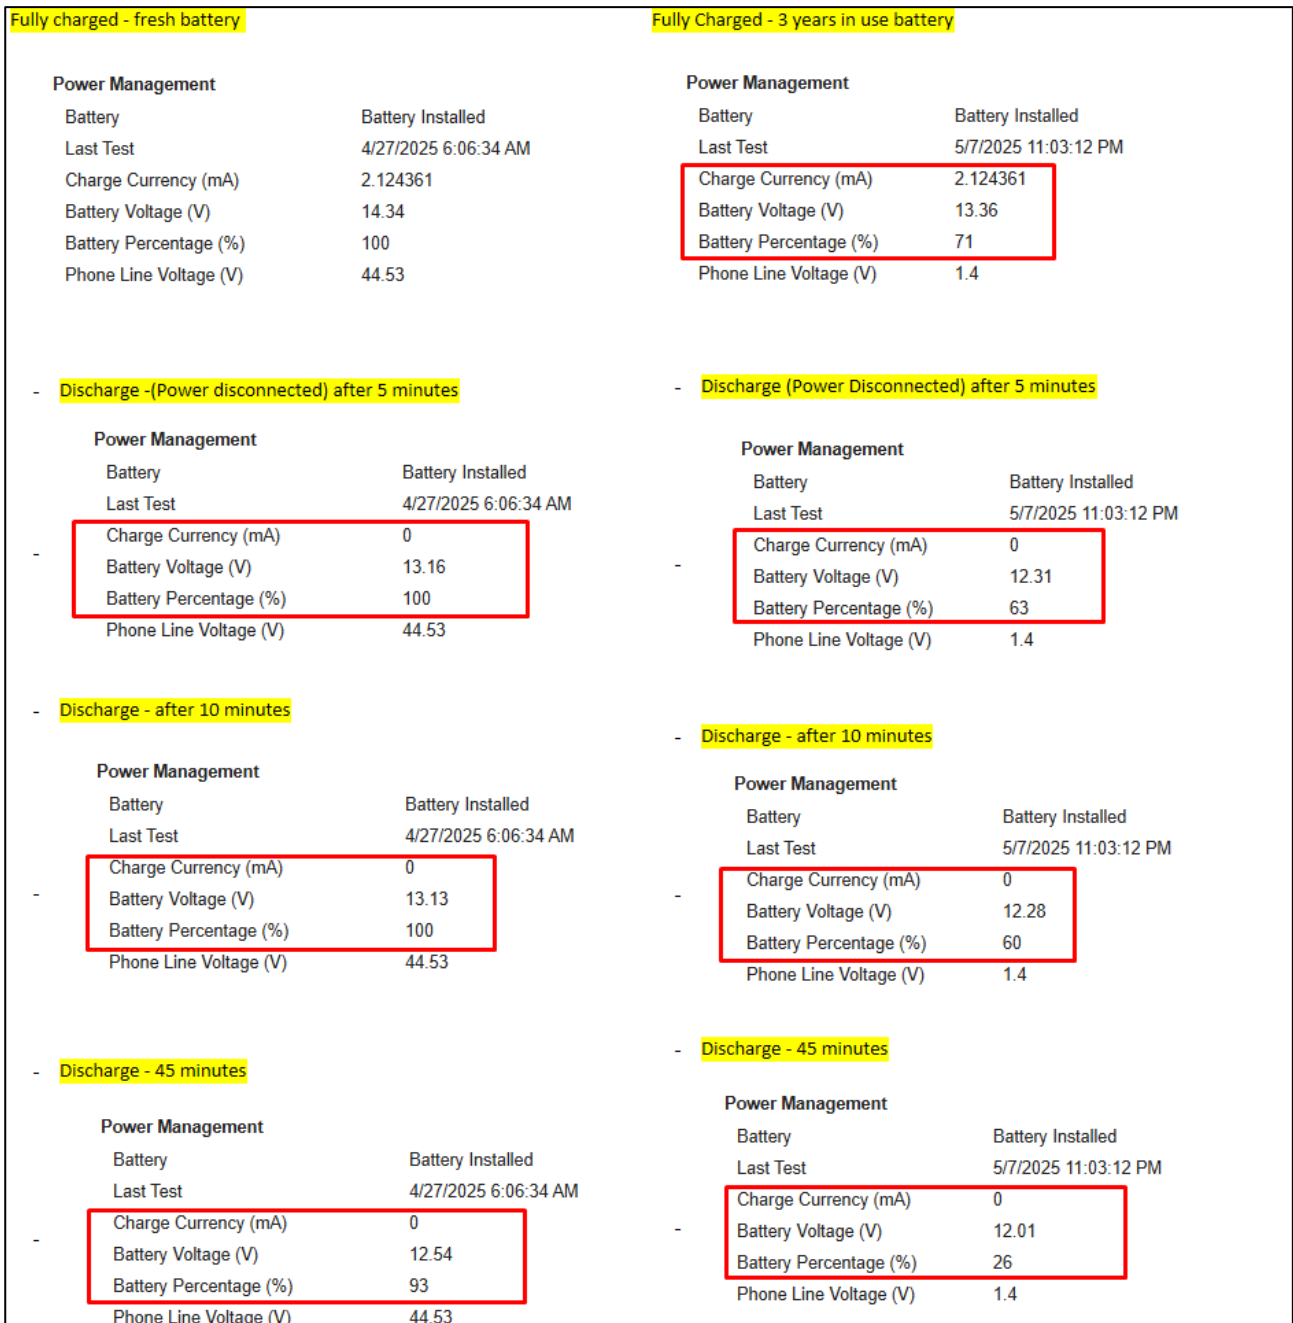

Figure 15: Power Management Specification in Fresh and Old Batteries
- The Charge Currency drops to zero (0).
- Battery Voltage and Battery Percentage (refer to Figure 15):
**NOTE:** While Figure 15 shows an example test that lasts 45 minutes, there is no need to test your unit for that long. A five-minute test is sufficient.